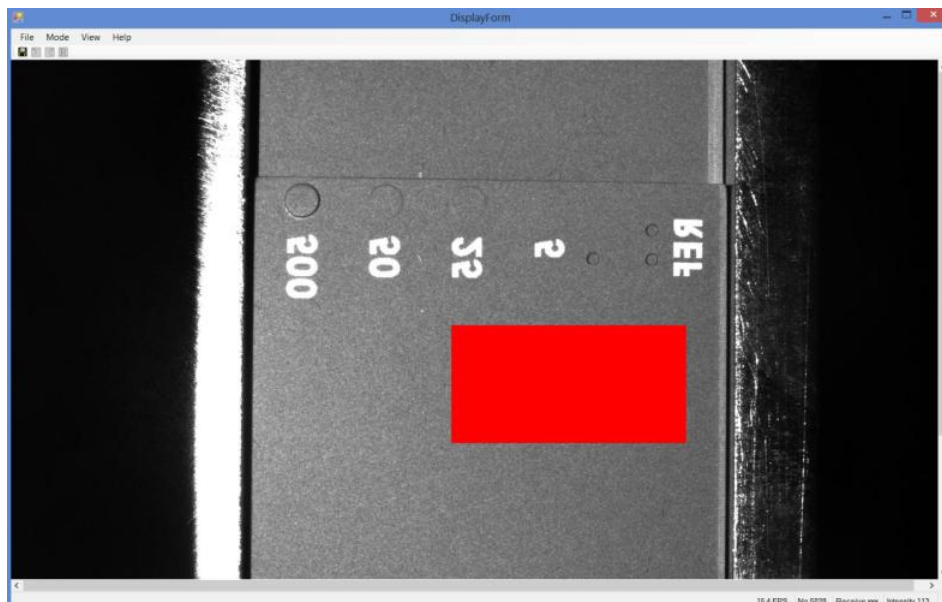

Figure 56 Display Form Dialog Box
57. A Dialog box with live View will be illustrated as below Figure 56.
62. Close the "Display Form Dialog Box" as Figure 56.